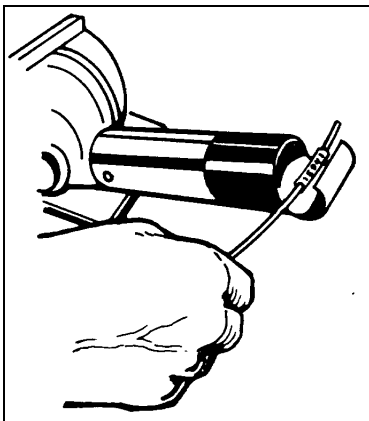

FIGURE 11-34. Shrinking marker on wire.
d. Shrink marker sleeve, using heat gun with shrink tubing attachment. (See figure 11-34.)